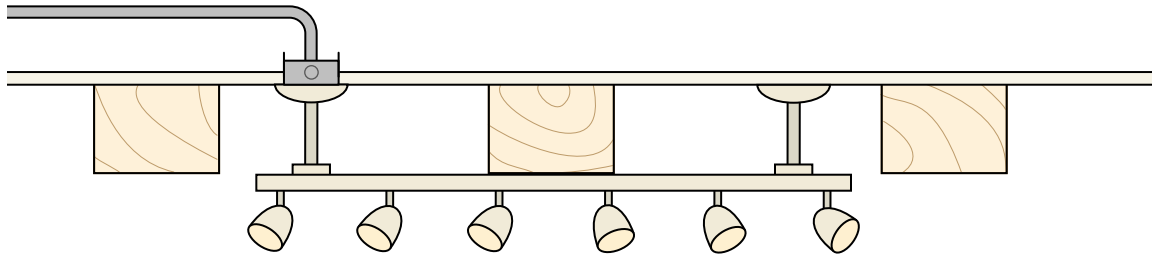

Figure 13-5 Track lighting mounted on the bottom of a wood beam. The supply wires to the track assembly are fed through the pendant.
1. Install pendant kit assemblies that will allow the track to hang below the beam, as in Figure 13-5.